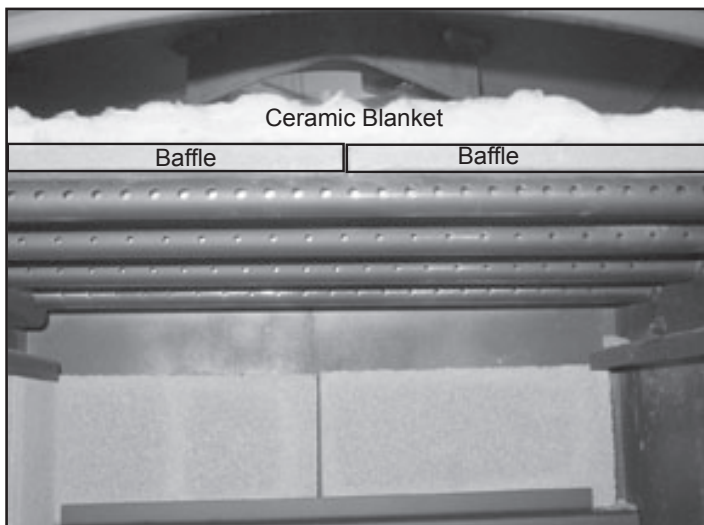

Figure 27.2
1. The snap disc bracket assembly is located on top of the blower housing in the center (**Figure 27.2**).
4. Re-install in reverse order. Be sure the baffle boards and ceramic blanket are in their proper positions (**Figure 27.2**).